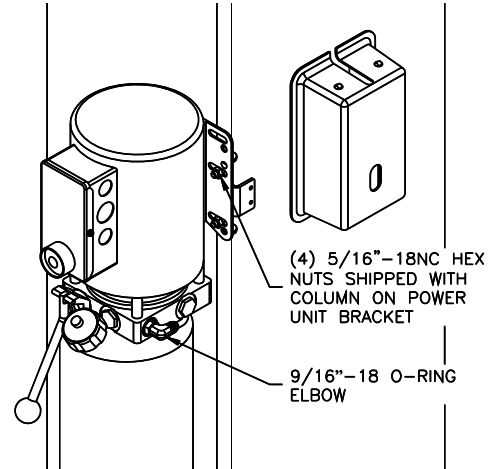

Fig. 10 – Power Unit Mounting
- 19) Mount Power Unit to power column as shown in **Fig 10**. The mounting hardware, (4) 5/16"-18NC hex nuts, are pre-installed on power unit mounting bracket.
- 20) Install 9/16"-18 O-ring elbow (*in hardware box*) into power unit, **Fig. 10**. **CAUTION** do not damage rubber O-ring.
- 27) Connect the bottom end of the power unit hose to the elbow fitting installed on the power unit (again taking care not to twist the hose), **Fig. 10**.